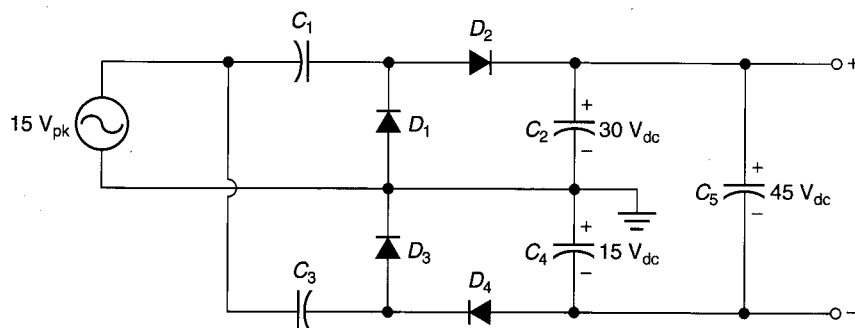

FIGURE 4.48
40. The circuit shown in Figure 4.48 has the capacitor voltages illustrated. Determine whether there is a problem in the circuit. If there is, list the steps you would take to find the faulty component.